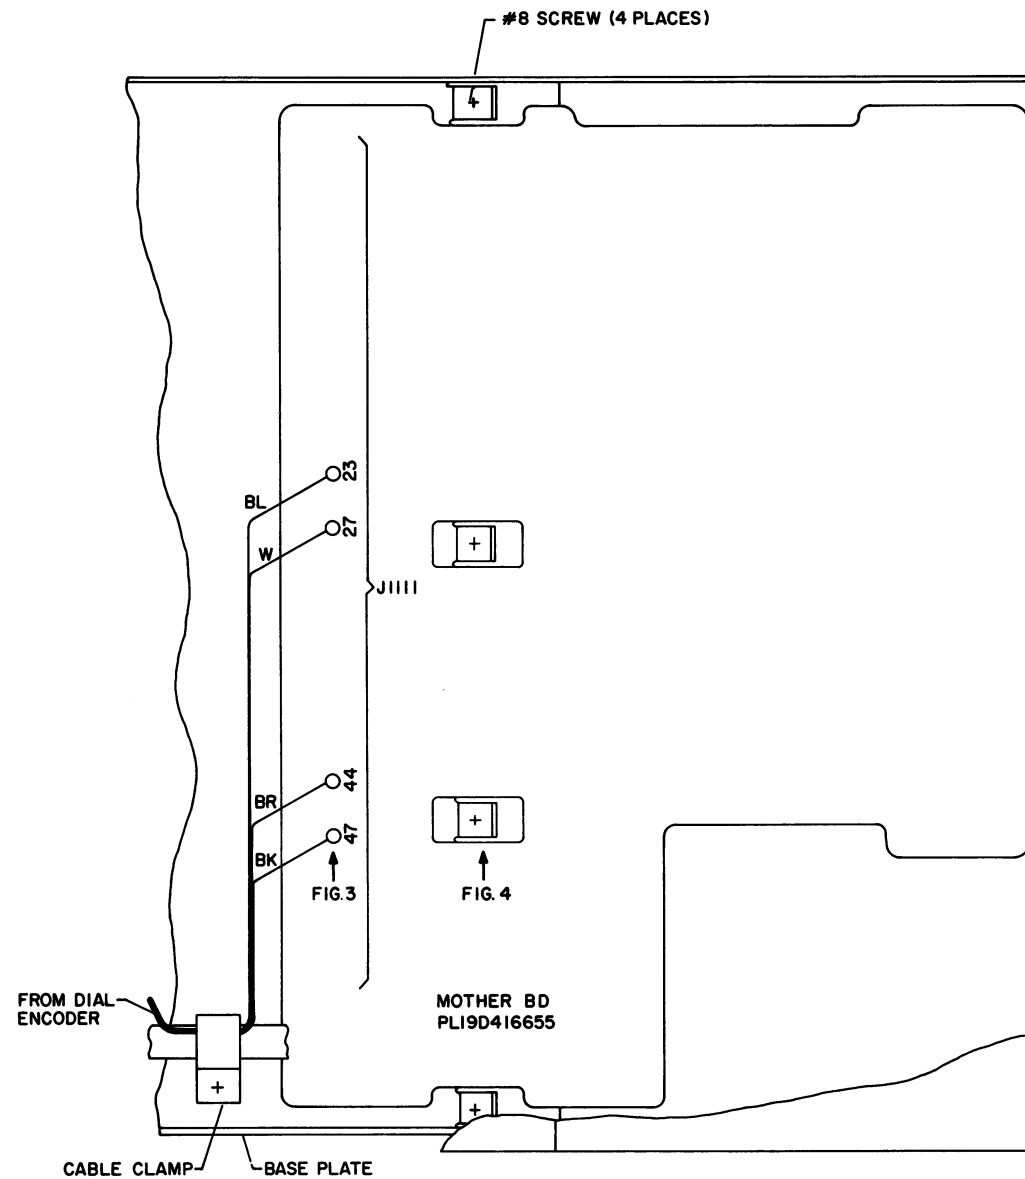

FIG. 2
2. LOOSEN 2 THUMBSCREWS AT REAR OF UNIT AND REMOVE REAR COVER. SEE FIG. 2.
3. REMOVE 4- #8 SCREWS AT BOTTOM OF UNIT AND REMOVE HOUSING FROM BASE PLATE. SEE FIG. 2 & 4.